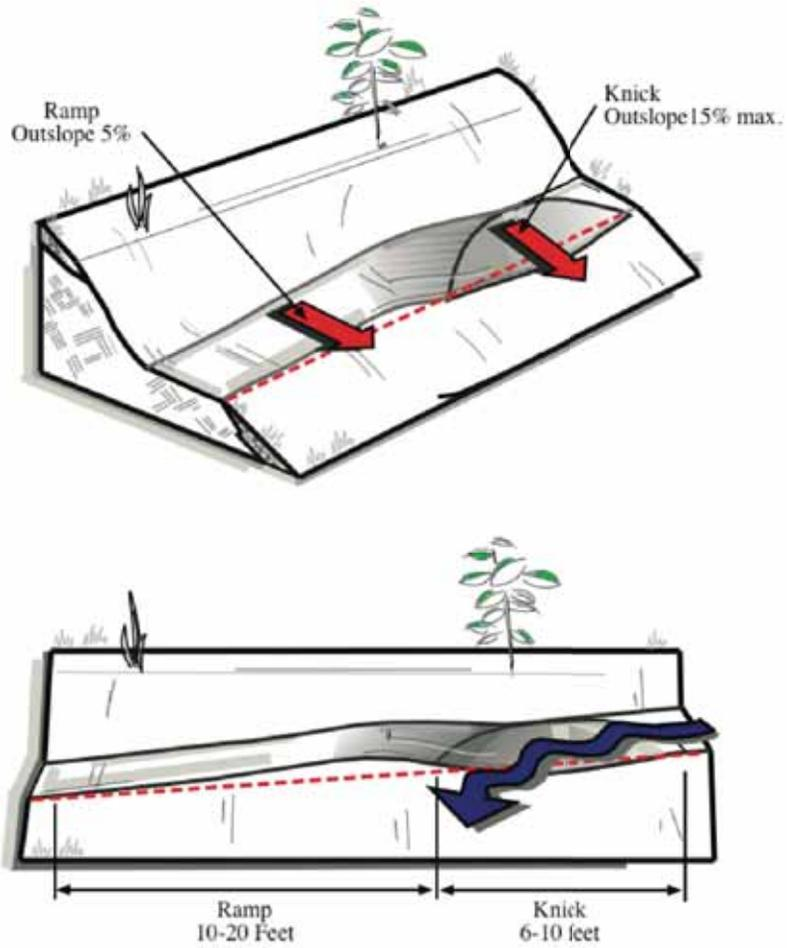

Figure 6: Rolling Grade Dip
5.4 Rolling Grade Dip (figure 6)